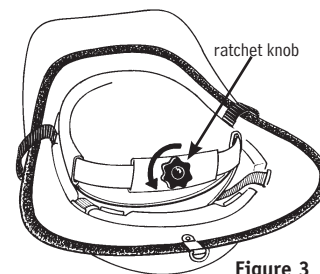

**Figure 1**
3. Pop the dark colored "U Channel" (Figure 1) away from the black inner liner. There is one "U Channel" in the front of the helmet and one in the back of the helmet.